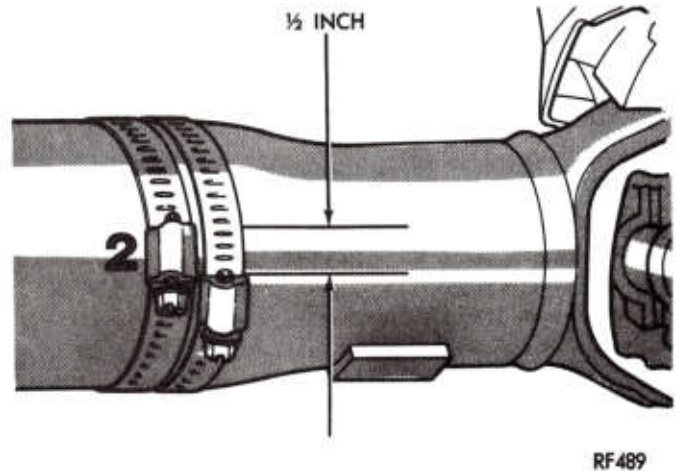

Fig. 22—Rotating Clamps Apart
(11) Two clamps combined weight at one point may cause an unbalance condition; if so, rotate clamps about 1/2 inch (1/4 inch each above and below the best position), and repeat test (Fig. 22).
(12) Continue to rotate clamps apart until vibration is at its lowest level. Bend loose end of clamp so that clamp will not loosen.